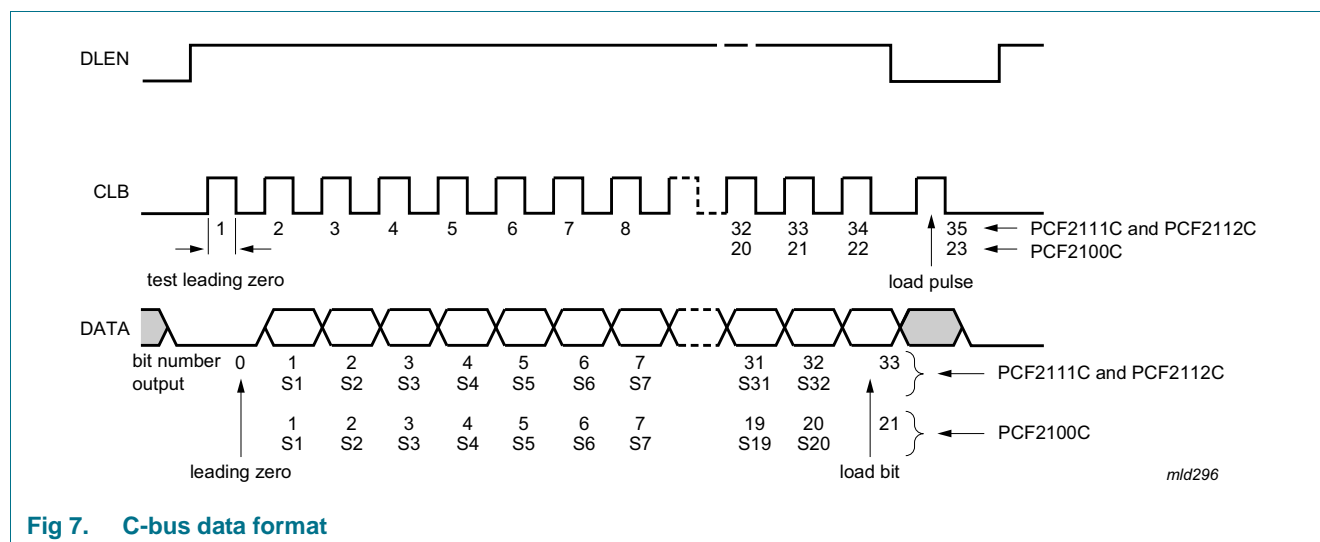

Fig 7. C-bus data format
An LCD segment or LED output is activated when the corresponding DATA bit is HIGH; see Figure 7.
- (1) Load pulse 23 for PCF2100C; see Figure 7.
- (2) Load pulse 35 for PCF2111C and PCF2112C; see Figure 7.